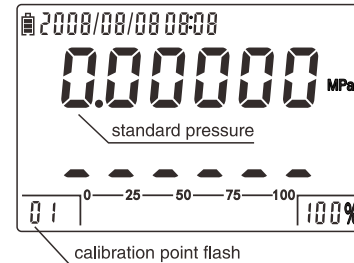
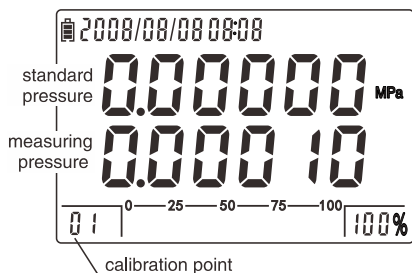
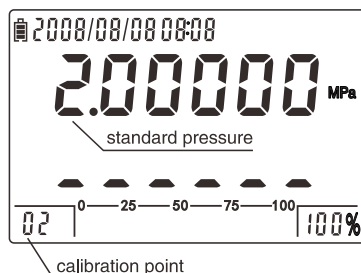
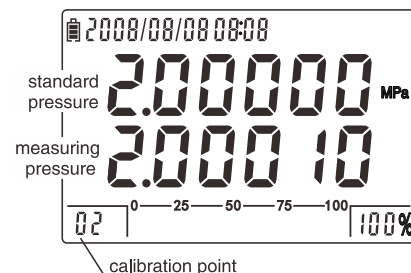

Figure 5-3-1: 1st point entrance
Figure 5-3-2: 1st point calibration
Figure 5-3-3: 2nd point entrance
Figure 5-3-4: 2nd calibration
- (1) Press  to enter into passport menu, input the password "2003" and press  to enter into calibration menu.
- (2) Select **IP_CAL** and press  to enter into the entrance interface. The **【 01 】** of left reading area is 1st calibration point, the user can select points by using  . Please press  to start calibration. (as figure 5-3-1)
- (3) The first line flashes to remind the user to input the standard pressure of 1st point. (In this example, it is 0.00000 MPa)
- (4) As figure 5-3-2, screen displays the interface of 1st calibration point. Please supply 0.00000 MPa pressure, and press  to finish the 1st point calibration after it is stable. As figure 5-3-3, switch to the 2nd point calibration interface.
- (5) Under the interface of 2nd calibration point, the first line flashes for new standard pressure. In general, it is the default (In this example, it is 2.00000 MPa), press  for next step.
- (6) As figure 5-3-4, screen displays the 2nd point calibration interface. Please supply 2.00000 MPa pressure and press  to finish the 2nd point calibration after it is stable. The screen switches to the interface as figure 5-3-1 and the calibration is finished.
- (7) Press  to return to the calibration function menu. The calibration is effective if **2P.0** changed to **2P.1**.